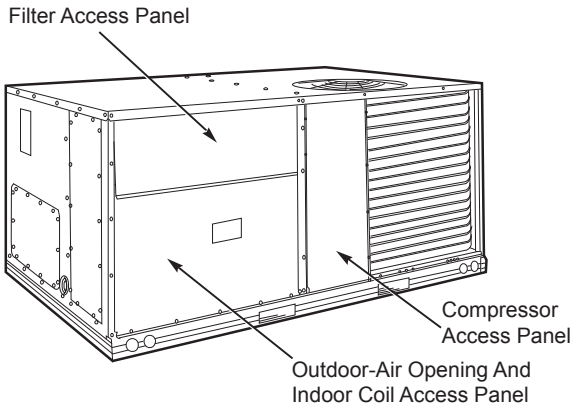

Fig. 9 — Typical Access Panel Locations
1. To gain access to the hood, remove the filter access panel. (See Fig. 9.)